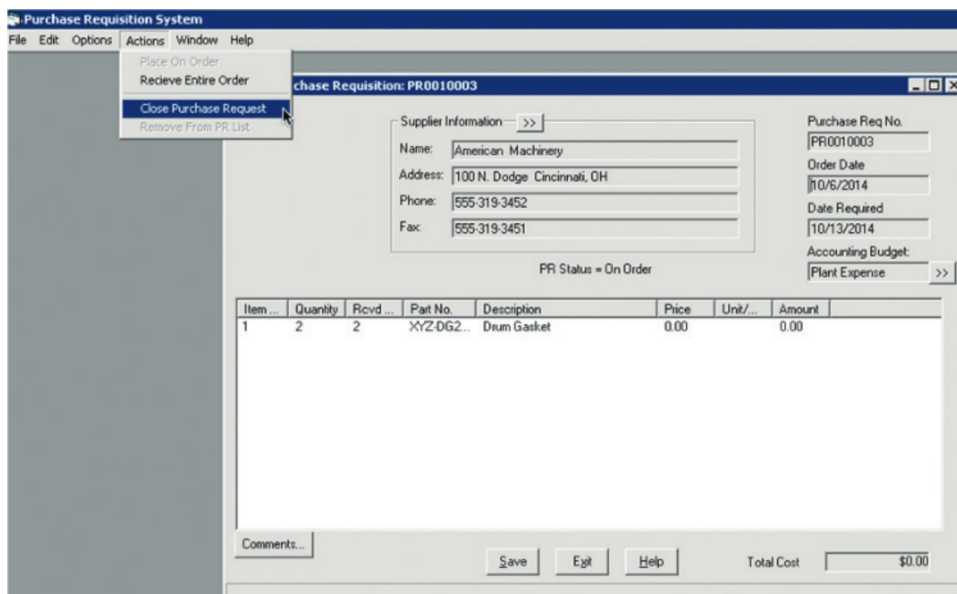

Figure 53. Purchase Requisition System: Actions—Close Purchase Request
5. Select **Close Purchase Request** (see Figure 53).